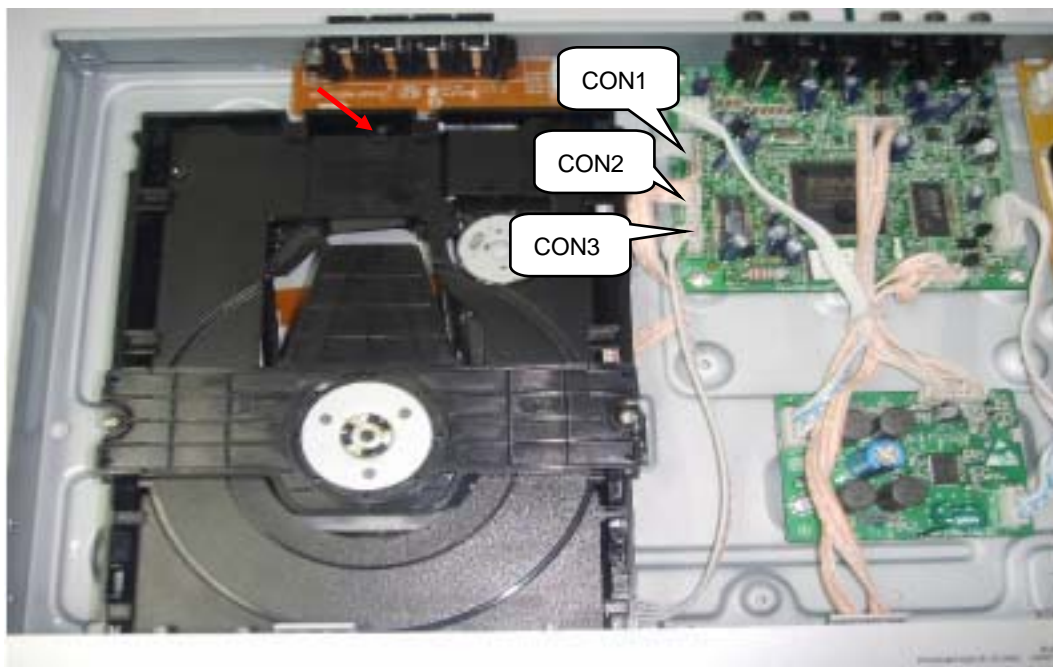

Figure 4
**Step4:** Dismantling Loader, disconnect the 3 connectors aiming in the below figure, and remove screw around the Loader. (Figure 4)